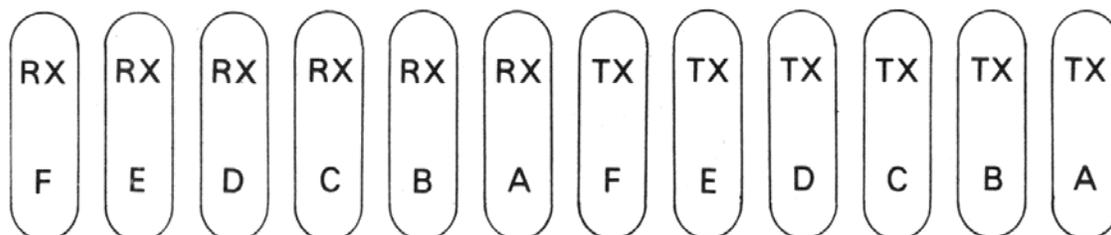

Figure 1.
3. The crystal sockets are marked A.B.C.D.E. & F. They are also indicated as "RX" (receiving crystal) and "TX" (transmitting crystal). See figure 1 below.